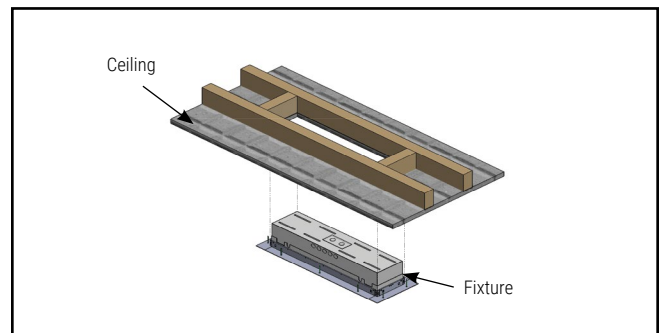
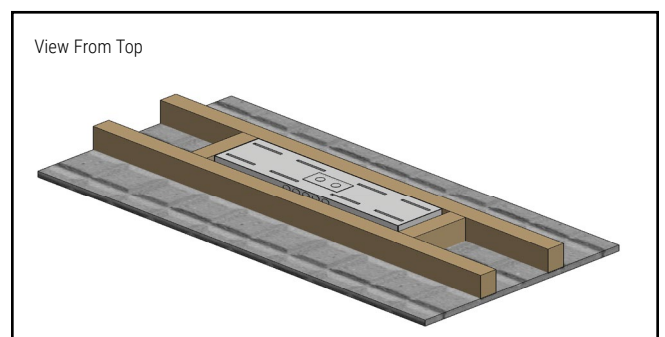

Figure 8
Figure 9
3. Install frame with fixture in ceiling cutouts attach to ceiling frame with tamper proof screws provided. (Figure 8) For finished DFVR assembly.(Figure 9)